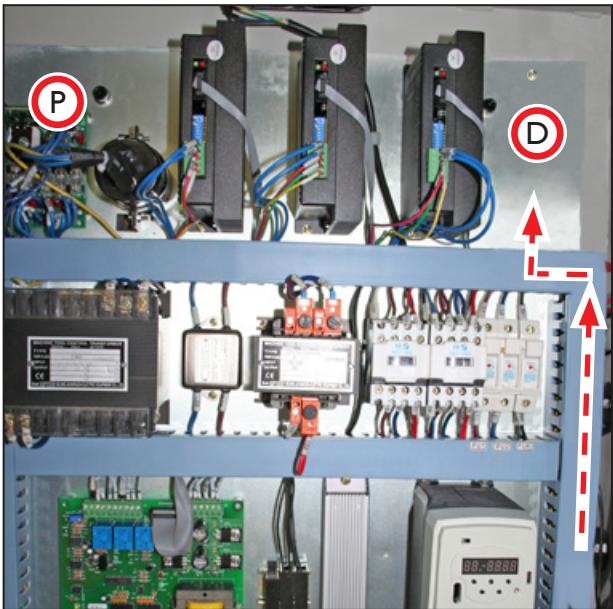
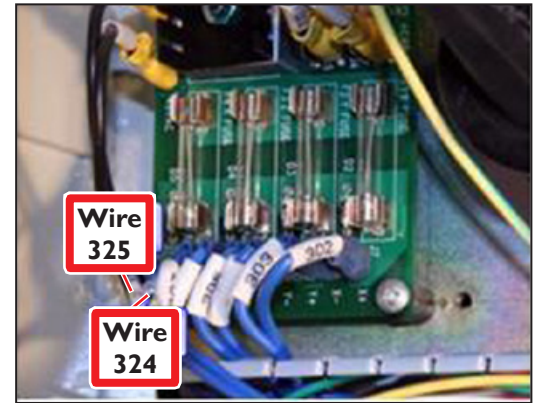
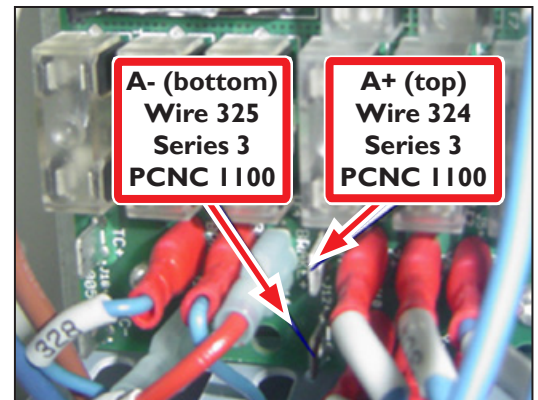
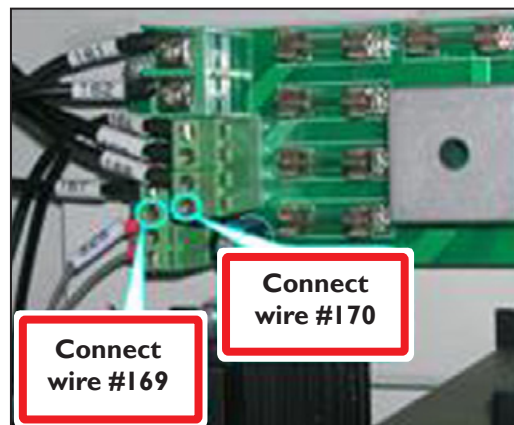

Figure 3
Figure 9
Figure 10
Figure 11
- 2. Identify location *D* in electrical cabinet as shown in **Figure 3** to install 4th axis drive.
2. Route wires 320-323 from Interface Connector through wire troughs and to location *D* as shown in **Figure 3**.
1. Plug crimp connector end of wire 325 to connector marked –A on the DC Bus Board (at location *P* in **Figure 3**); plug crimp connector end of wire 324 to the connector marked +A (see **Figure 9** and **Figure 10**). Refer to *PCNC 1100 Wiring Overview* section later in this document for wire labeling details.
2. Route loose end of power wire to drive (at location *D* in **Figure 3**).
1. Plug crimp connector end of wire 170 to connector marked –A on the DC Bus Board (at location *P* in **Figure 3**); plug crimp connector end of wire 169 to the connector marked +A (see **Figure 11** and **Figure 12**). Refer to *PCNC 1100 Wiring Overview* section later in this document for wire labeling details.